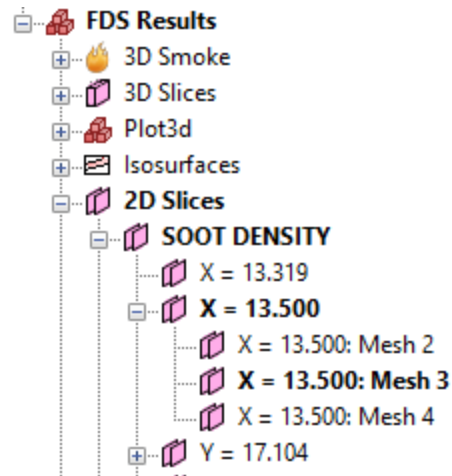

Figure 56. Activated 2D slice in the Navigation View
- In the Navigation View, the label for the object becomes **bold**. In addition, all the parent nodes of the object become bold as well. For example, if **SOOT DENSITY slice X = 13.5000 : Mesh 3** is activated, the Navigation View will appear as shown in Figure 56. This makes it easy to see which items in a hierarchy are currently active even if a node is collapsed.